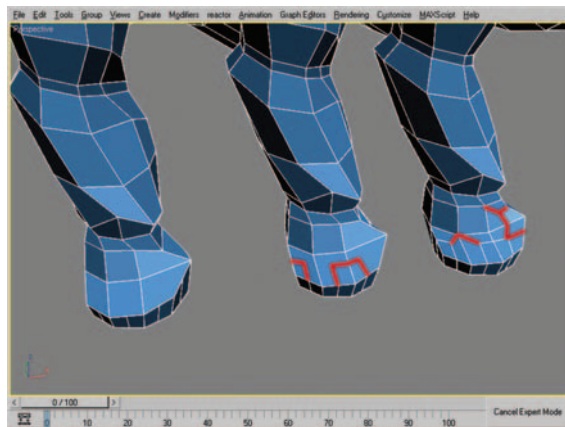

Figure 9.59 New edges created using the Cut tool.
20. Using the Cut tool, create the series of edges seen in Figure 9.59 (center). These edges will become direction-changing corners in the next steps and create an all-Quad geometry.
21. *Note:* You may want to check the Ignore Back Facing checkbox for this step. Still using the Cut tool, add the edges highlighted in Figure 9.59 (right). When using Cut the cursor will give you a visual notification when you are over an edge, polygon, or vertex. During this process you do not want to create additional vertices, so pay close attention to the placement of the cursor when you click to cut. I recommend checking all of the newly created vertices when you are finished to make sure there aren't any multiple vertices from the cut process. If there are multiple verts in a given area, simply use Weld to correct the issue.